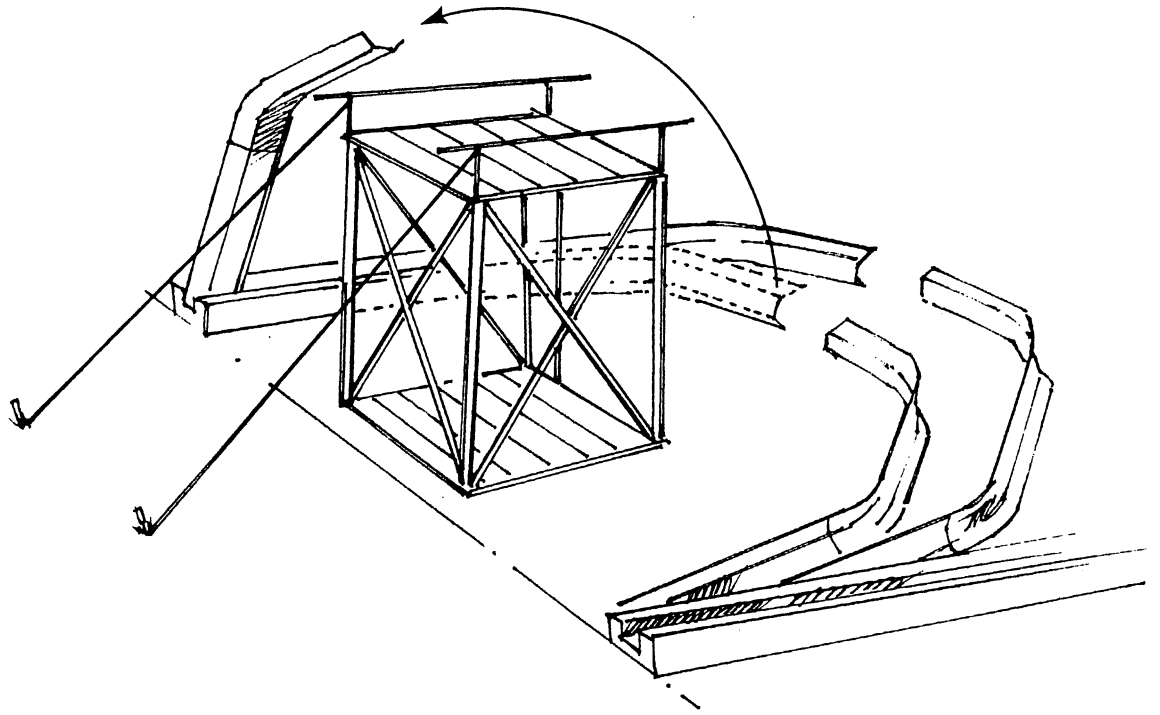

Fig. 30
5. Support the top end on the scaffold as shown in Fig. 30, and secure it temporarily by means of ropes or otherwise.